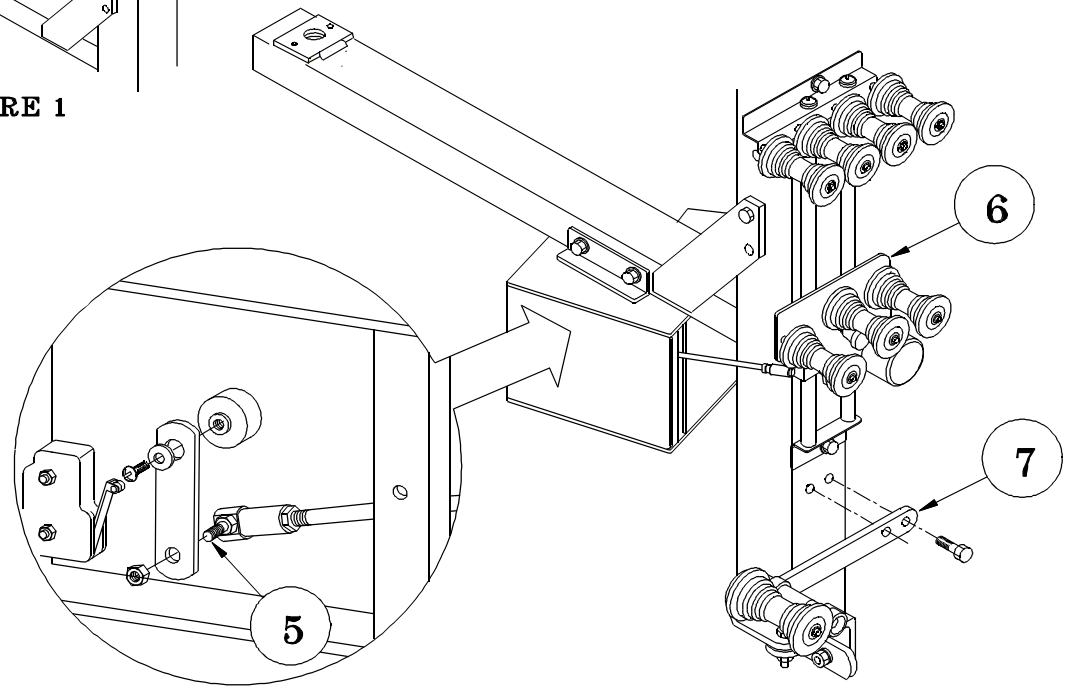

FIGURE 3, ALPHA VARIAC
5. Disconnect electrical power and remove the cover on the variac. Remove the nut securing the power supply linkage rod to the variac link. (See Fig. 3, page 2).